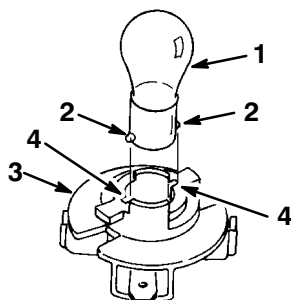

Figure 56
5. Push and rotate the bulb counterclockwise until it stops (approx. 1/4 turn) and remove the bulb from the bulb holder (Fig. 56).
1. The bulb has metal pins on the side of its base. Align the pins with the slots in the bulb holder and insert the base into the holder (Fig. 56). Push and rotate the bulb clockwise until it stops.